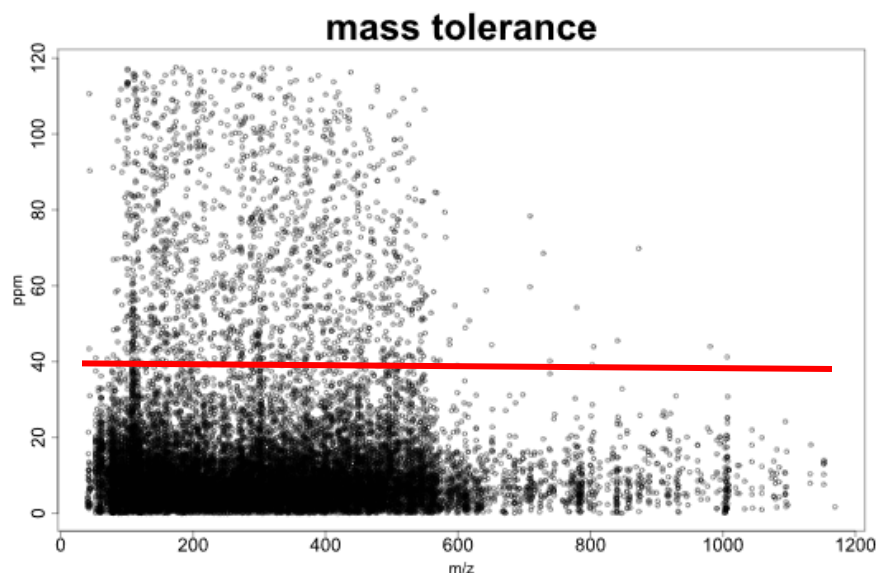

Figure 4. The mass accuracy distribution generated by Paramounter part 1.
- 5) Run Paramounter part 1 by clicking “Source” in the top right corner of the document window in RStudio. Paramounter part 1 generates a plot showing the distribution of mass accuracy in the dimension of m/z and the cutoff line (red line in **Figure 4**).